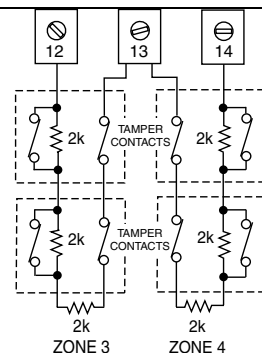

Fig. 7. Typical Double Balanced Zones
3. Connect 4-wire smoke detectors (up to 16, depending on detector current draw) to any zone from 2-8 as shown in Figure 7 (on next page).